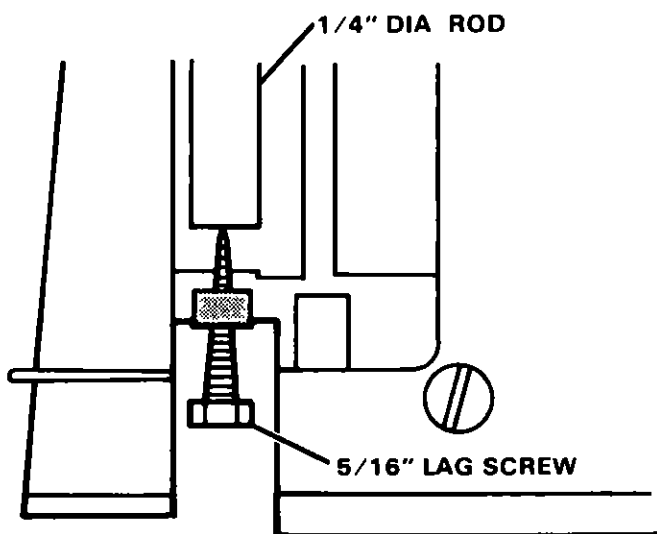

Figure 31. Removing Shift Rod Seal.
- B Press both seal and lag screw out of seal bore Figure 31